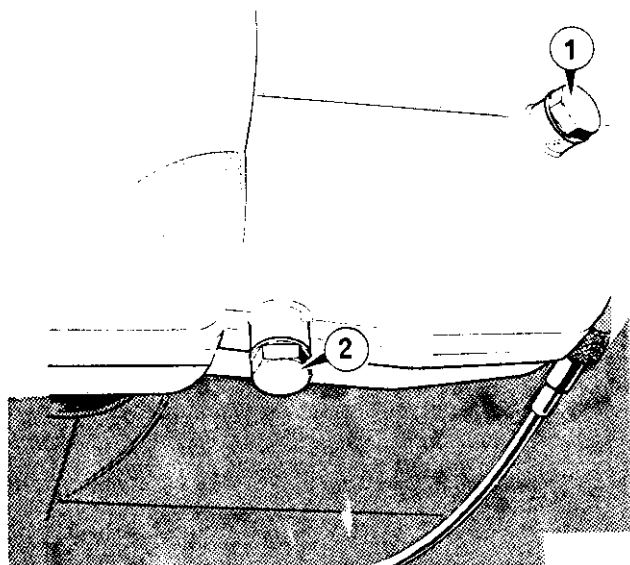

Figure 10 Gearbox oil level and drain plugs
2. Remove gearbox level plug and observe oil level correct when in line with the bottom of the level hole threads (figure 10).